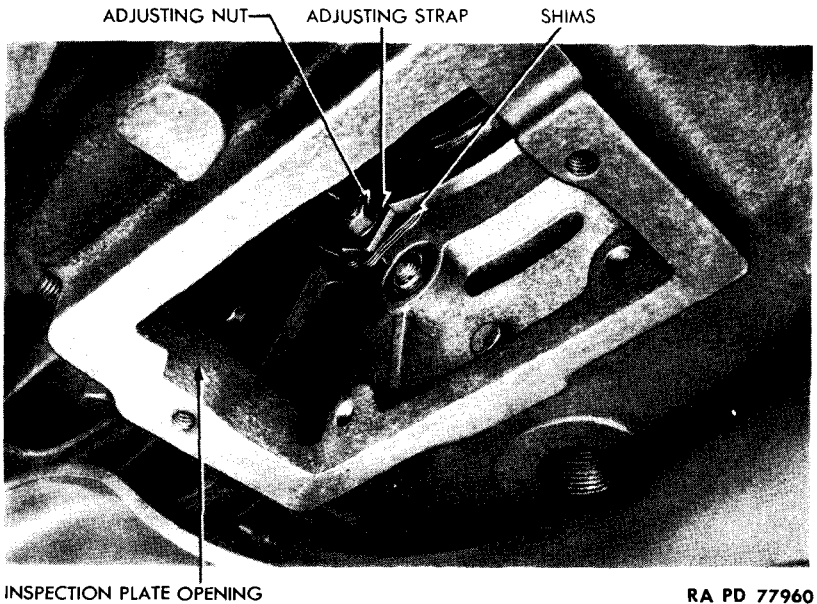

Figure 26 – Clutch Adjustment Provisions
b. Adjustment (figs. 26 and 27). Remove cotter pin and clevis pin connecting clutch control rod and clutch pedal lever. Remove inspection plate beneath clutch housing. Block clutch disengaging lever in full release position and turn engine slowly with hand crank until adjusting strap (with shim packs) is accessible. With clutch in a released position back off the six adjusting nuts about five full turns.